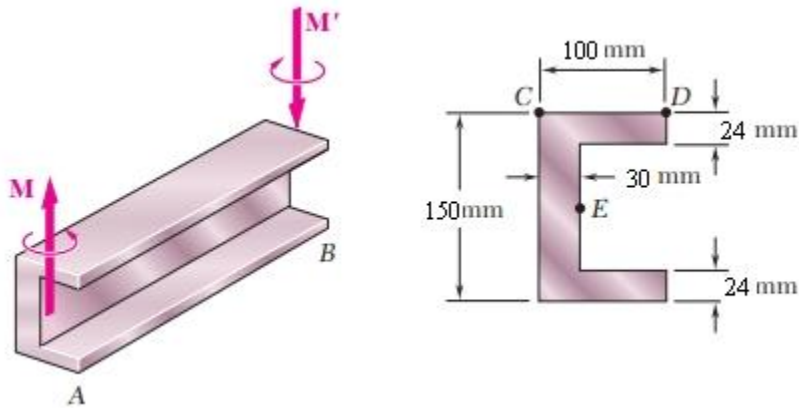

Figure 5
- b. Two equal and opposite couples of magnitude $M = 25 \text{ kN.m}$ are applied to the channel-shaped beam AB as shown in Figure 5. Observing that the couples cause the beam to bend in a horizontal plane, determine the stress at